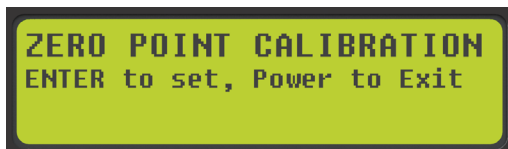

Fig.41
4. The touch pad will flash and beep and the display will read, ZERO POINT CALIBRATION ENTER to set, Power to Exit (Fig.41).